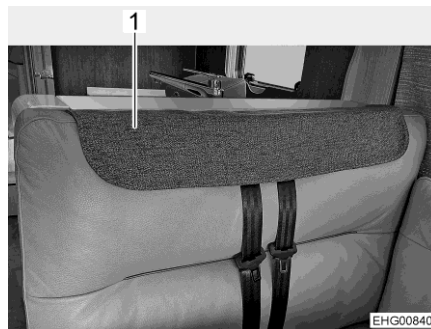

Fig. 85 Seat belt cover attached
When the vehicle has been positioned, the headrests can be removed from the back cushion of the bench to allow for more comfortable seating. The openings for the headrests and the cut-out for the seat belts can then be covered with a seat belt cover (Fig. 85,1).
- Attach the seat belt cover over the cut-out for the seat belts (Fig. 85).